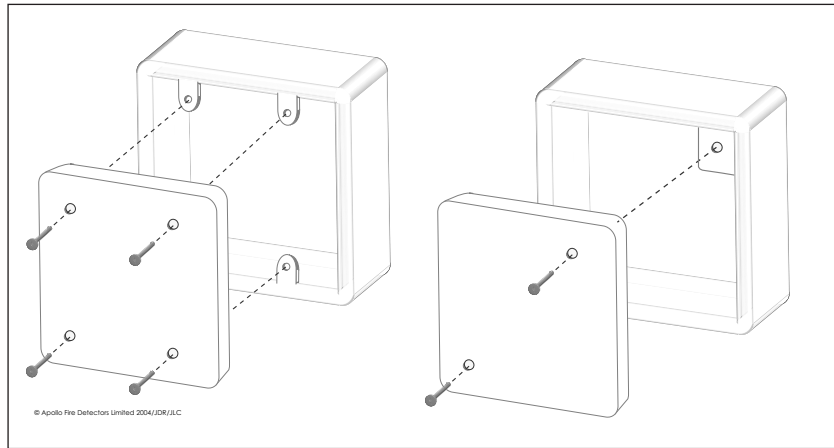

Fig 1. Mounting the XP95A Relay Output Module
2. Drill holes in the fascia plate corresponding to the holes on the mounting box selected (Fig 1)